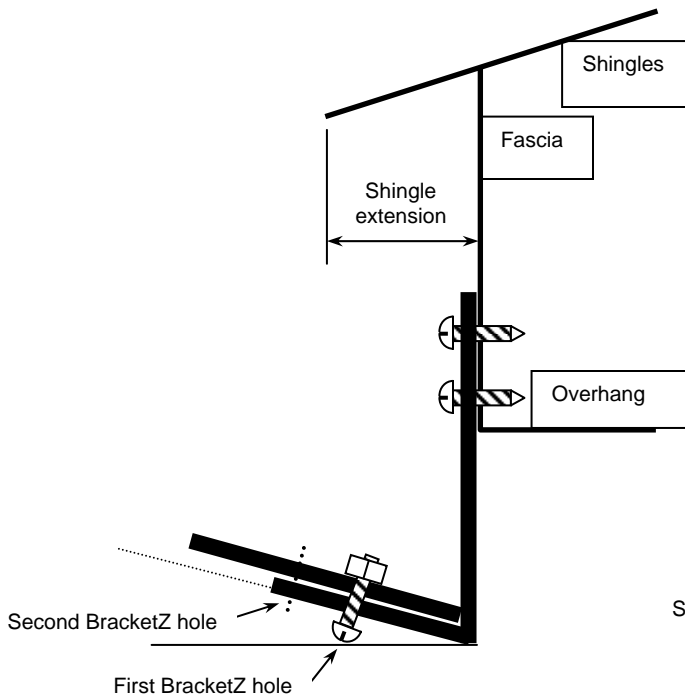
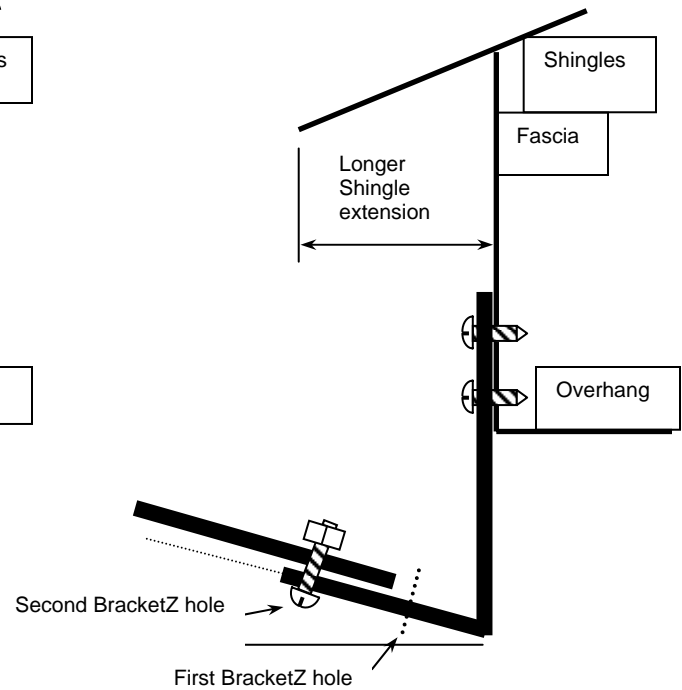

FIGURE 5A
FIGURE 5B
- a. Locate the shingle drip points directly above the perforated area. The shingle drip edge must be located above the perforated area. Note how far the shingles extend past the top edge of the fascia (minimum extension should be more than 3/4 inch). If the shingle extends less than 2-1/2 inch past the fascia, align the RainbreakerZ's larger hole with the first BracketZ hole and attach with the N0. 8 x 7/18 inch screw with locking nut, see Figure 5A. If the shingle extends between 2-1/2 inch and 3-1/4 inch, align the larger hole with the second BracketZ hole, see Figure 5B. If the shingle extends more than 3-1/4 inch, the shingles should be cut back to a more normal 1-1/2 inch extension before installing the RainbreakerZ.